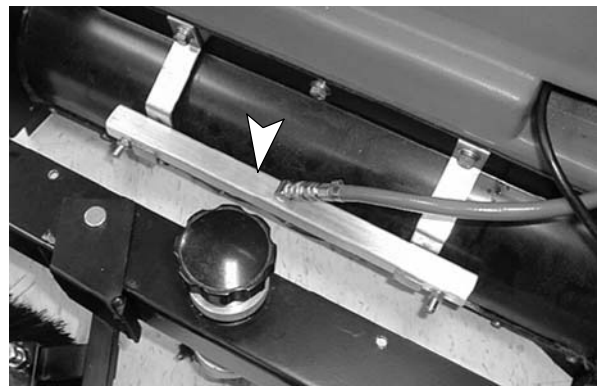

FIG. 41
6. Disconnect spray bar and shake out water through spray tips (Figure 41).